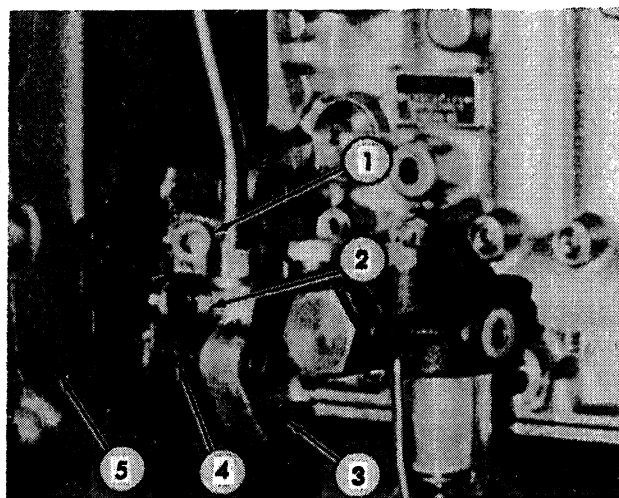

Fig. 5 Fuel Injection Pump Timing Window
1. Remove pipe plug, Fig. 5 (1). Rotate engine until timing marks on drive gear hub, Fig. 8 (3), and timing pointer are aligned (these marks are visi-
7. Remove capscrews securing pump mounting cover, Fig. 5 (4), to timing gear housing (5). Pull pump back and swing it away from the cylinder block just as the pump drive gear clears the timing gear housing. If removal of the pump at this point cannot be accomplished due to interference at the front valve lifter cover, remove cover to gain additional clearance.